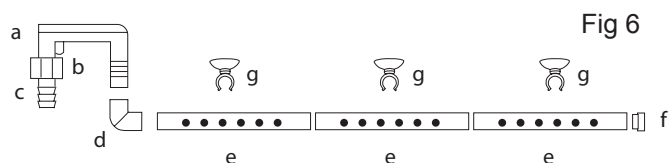

Fig 6
7. Ensure the filter media baskets are sitting flat on top of each other. You will notice there is one basket which is different to the others. This must be the last tray to be inserted. Fig 6
8. And the minimum height is 10cm. Fig 6